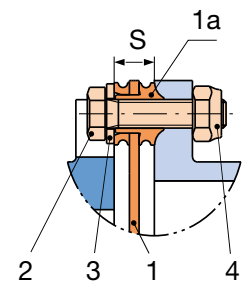

Fig. 113 Detail „X“
- Screw the disk packs (1, Fig. 113) over lightly-oiled hexagon head screws (2), washers (3) and hexagon nuts (4) alternately with the sleeve and the hubs.
- The generation of pre-tension force on the disk pack (1) generally takes place\* via the hexagon nut (4). The disk pack (1) must not be distorted when applying the pre-tension force (secure screw (2) against turning).
- The hexagon nuts (4) or hexagon head screws (2) must be tightened crosswise and in several sequences to the full tightening torque  $M_a$ . For the appropriate tightening torques for each sequence, please see the appropriate Installation and Operational Instructions.
The radius of the collar bushings (Part 1a, Fig. 113, Detail "X") must lie in the grooves of hubs and sleeves.